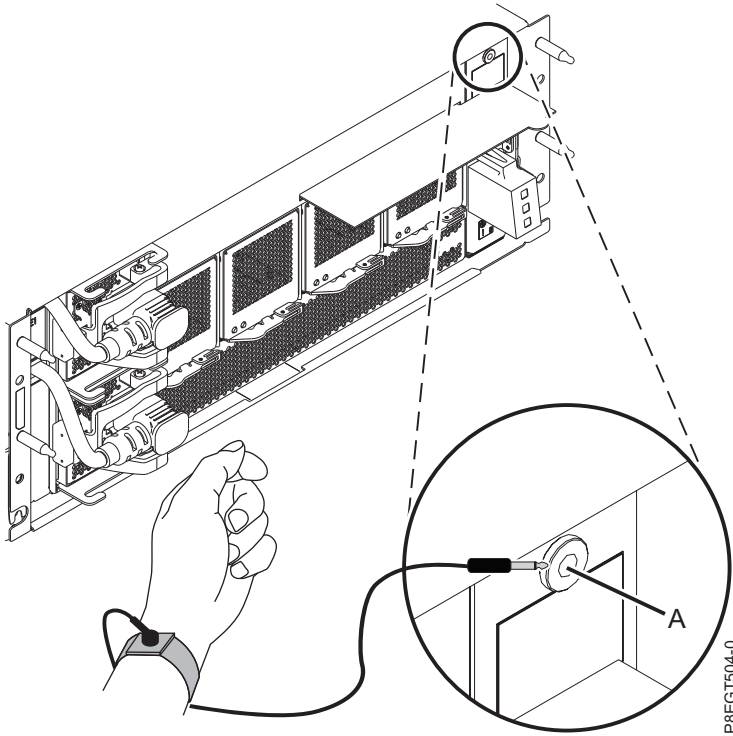

Figure 14. Attaching the wrist strap to the front ESD jack
- a. Attach the wrist strap. Plug the wrist strap into the ESD jack that is located at the front of the system. See Figure 14.